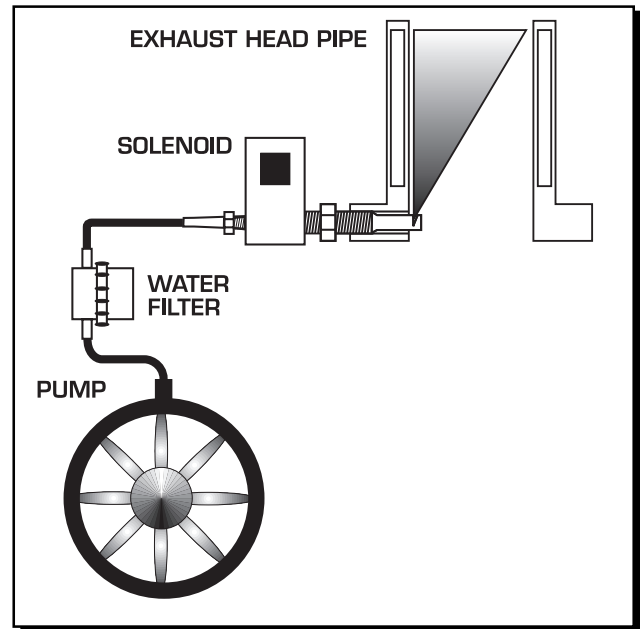

Figure 3 Direct Mount.
3. Thread the hole using an 1/8" NPT pipe tap. Install the solenoid and spray nozzle so the water will spray in the direction of the exhaust gasses (Figure 3).